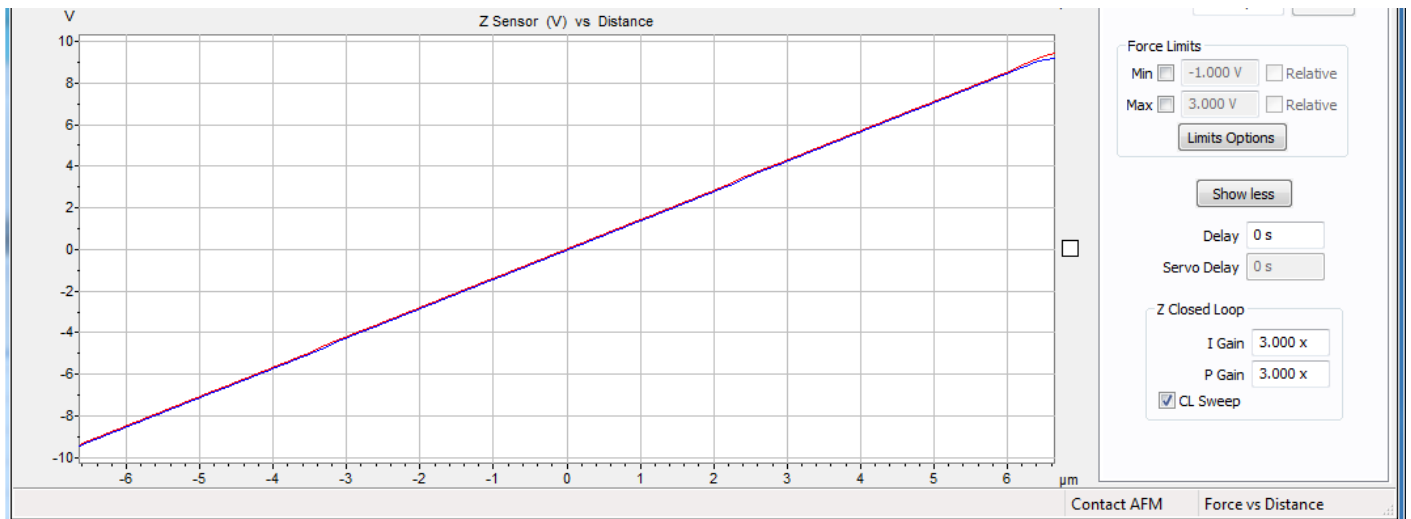

Figure 144 Spectroscopy sweep with closed loop On
- 17 Select the **CL Sweep** check box. The plot should change from the one above to that shown in Figure 144: